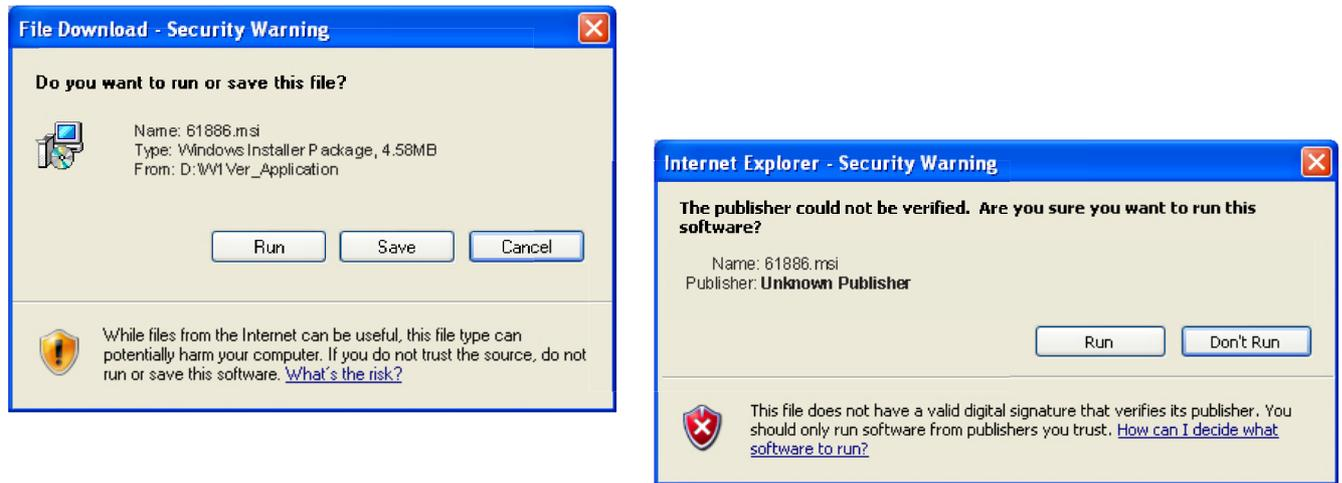

Figure 2-2. Installation Security Dialog Boxes – Click Run on each
7. Click Run on the two security dialog boxes (Figure 2-2 on page 2-3).